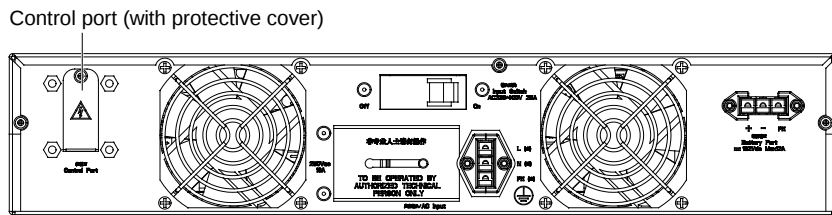

Figure 2-15 Control port on the rear panel of the 10A external charger
1. Take out the 10A external charger cable (DB9) from the 10A external charger package, and open the protective cover of the control port on the rear panel of the 10A external charger, as shown in Figure 2-15. Insert one end of the cable into the control port.